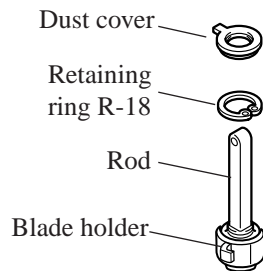
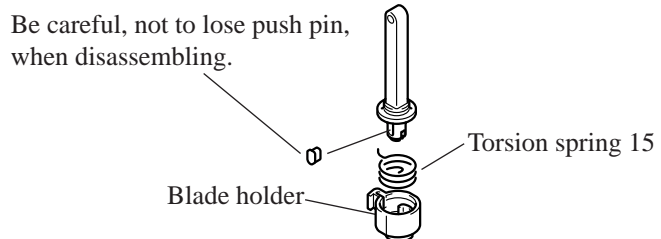

Fig. 12
Fig. 12A
- Disassemble dust cover, and then disassemble retaining ring R-18. as illustrated in Fig. 12. So blade holder and torsion spring 15 can be separated from rod as illustrated in Fig. 12A.